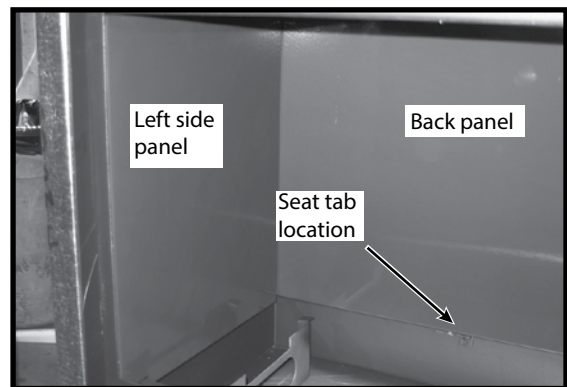

Figure 46: Left seat tab location.
2. While supporting the back panel insert the left side panel (Figure 46) into the firebox. Position the top of the panel against the side of the unit, inserting the top panel tab into the slot at the top of the side panel and slide the bottom into position.